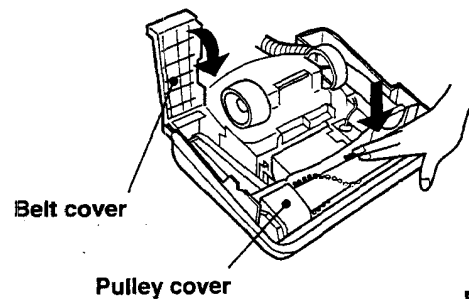

Fig. 27
- 5 Be sure that the flat belt is not twisted and all rotating parts move smoothly. (Fig. 27)